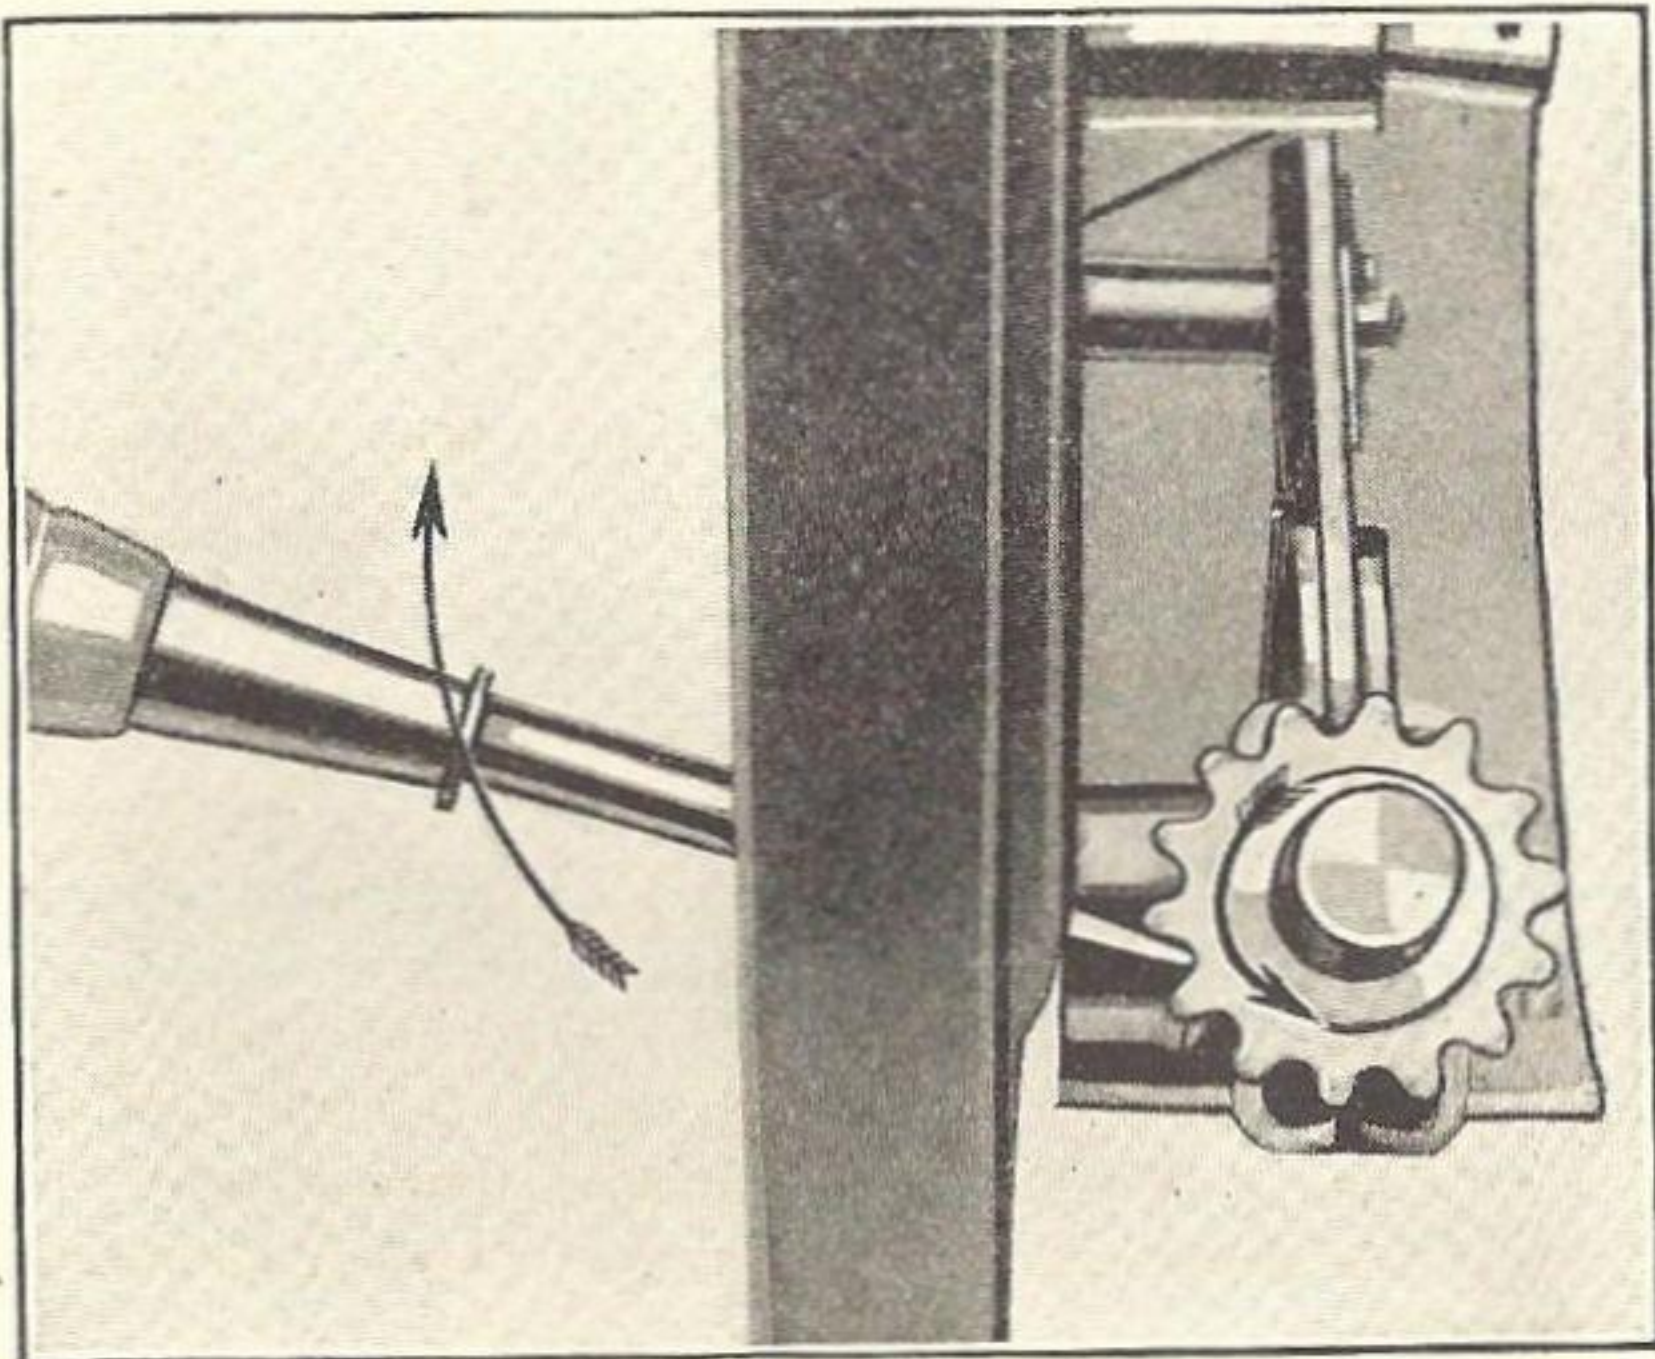

Fig. 30
B—Remove notched adjusting wheel cover plate (3) with screw driver. Turn notched adjusting wheel down toward brake drum by using screw driver as shown in Fig. 30, until brake drag is materially increased. Then turn notched adjusting wheel in opposite direction one notch or click at a time until only the slight drag obtained in paragraph A remains. Replace cover plate.